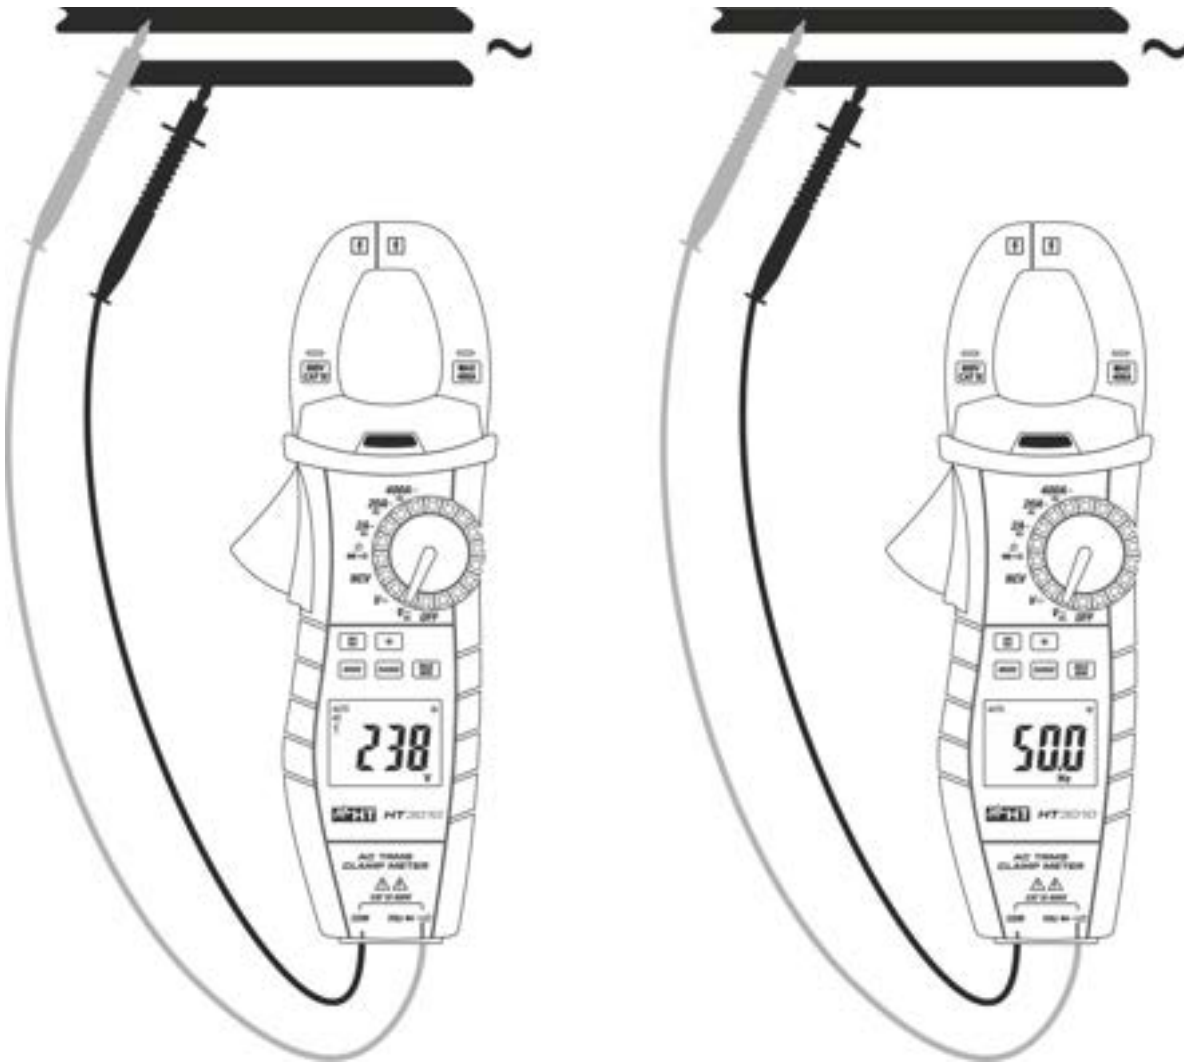

Fig. 5: Use of the instrument for AC Voltage and Frequency measurement
3. Position the test leads in the desired points of the circuit to be measured (see Fig. 5 – left part). The display shows the value of voltage.
5. Press the **MODE** key until the symbol **"Hz"** is displayed for measuring frequency (see Fig. 5 – right part)